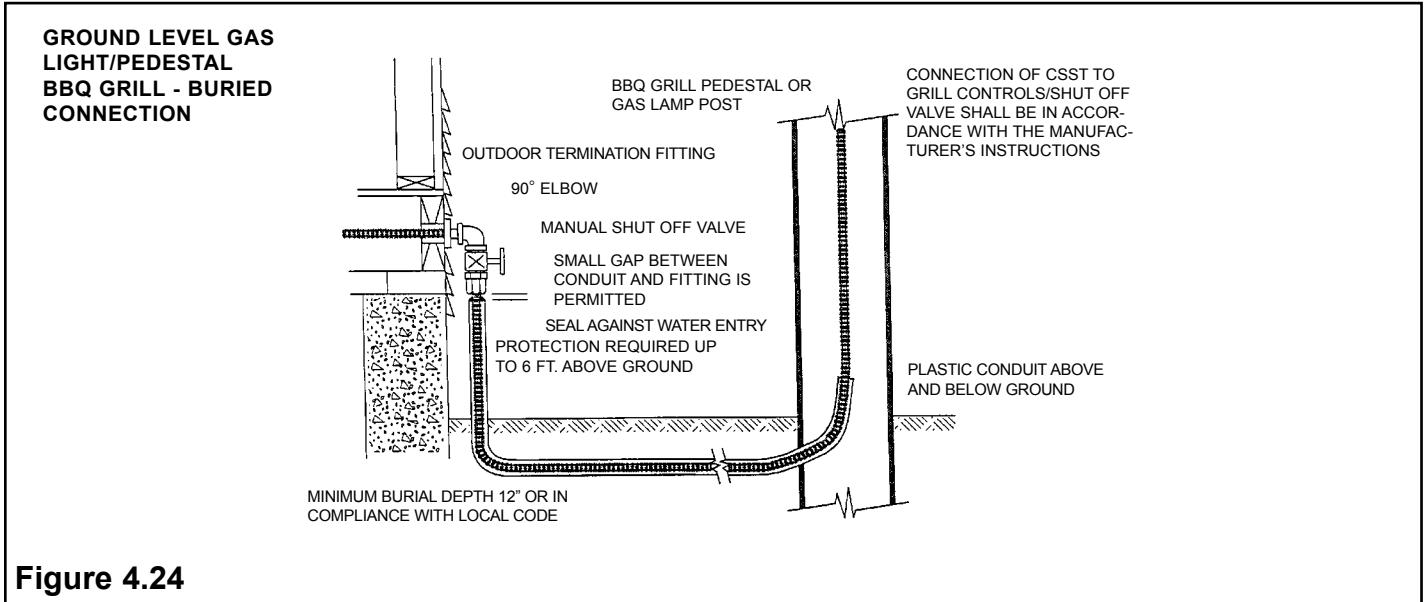

Figure 4.24
- D. Yard mounted lights shall be connected to the CSST system as shown in figure 4.24.